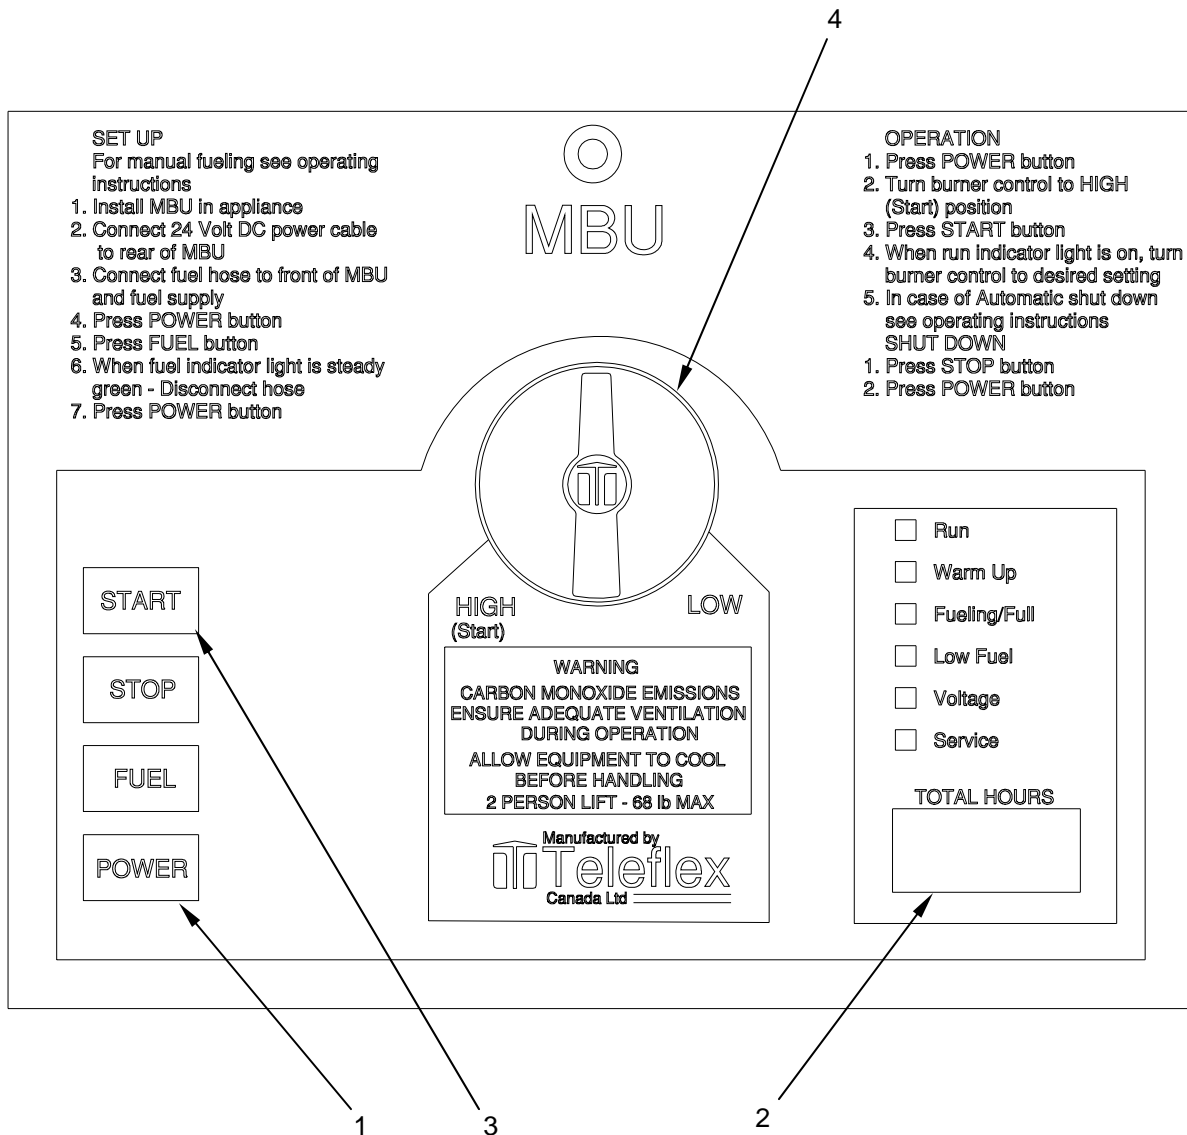

Figure 2. Calibrate the Controller Assembly (MBU only).
2. Press and HOLD the Power button (Figure 2, Item 1) until the power-up routine is complete (approximately 3 seconds) and the hour meter (Figure 2, Item 2) displays "CAL?."
3. Release the Power button (Figure 2, Item 1).
4. Press the Start button (Figure 2, Item 3). The hour meter (Figure 2, Item 2) will display "CAL."
5. Turn the Burner Control Knob (Figure 2, Item 4) through its complete rotation from HIGH (Start) to LOW.